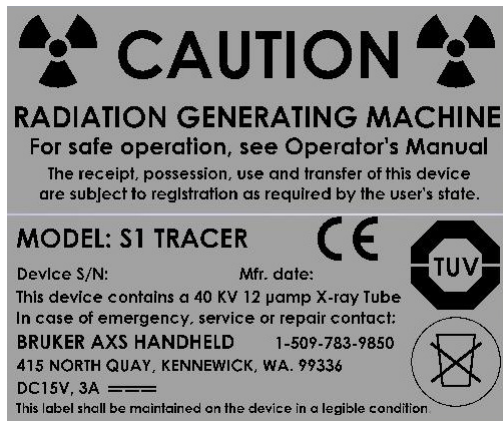

Figure 2.7: Instrument base caution sign
- A metal manufacturer's plate (Figure 2.7) is mounted under the analyzer housing near the handle. In countries other than the USA, this label may be different based on local regulatory requirements.